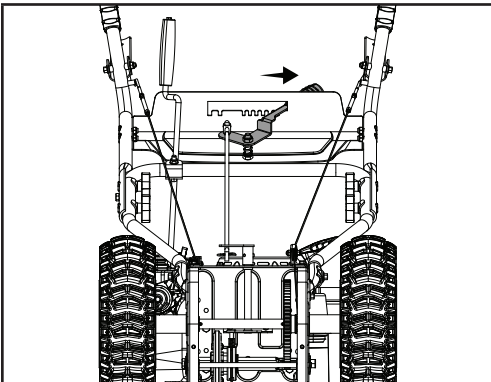
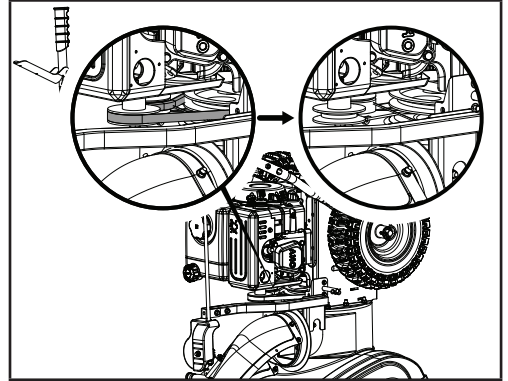

Figure 28A
Figure 28B
6. Slide the speed adjusting handle to the right (Fig. 28A) and remove the loose belt by cutting it or any remaining belt pieces if the belt has already broken (Fig. 28B). If cutting the belt be careful of the tensioning pulley and arm as they are spring loaded and could cause injury when the belt is cut.